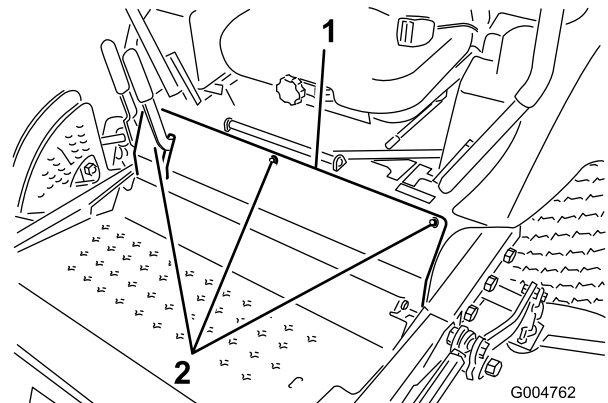

Figure 60
3. Remove the bolts securing the front panel and remove the panel (Figure 60).